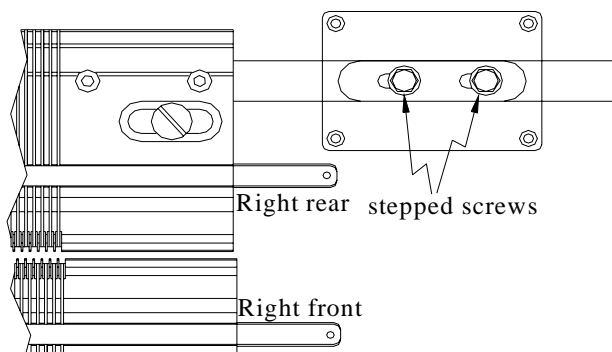

Fig.9-2 Adjusting the position of needle bed
- ④ If there has racking instruction in programming, you must enter the test mode to rack the needle bed in the set position before you execute tun, and make sure the racking mechanism is matched your programming.
- ⑤ Needle position of transfer must be at the left -2.5 and at the right +3.5 of needle bed.
- ⑥ If the corresponding position of needle bed is not proper, loosen the stepped screws and adjust the rear bed to correct position, then tighten the stepped screws after adjustment. Refer to Fig.9-2.